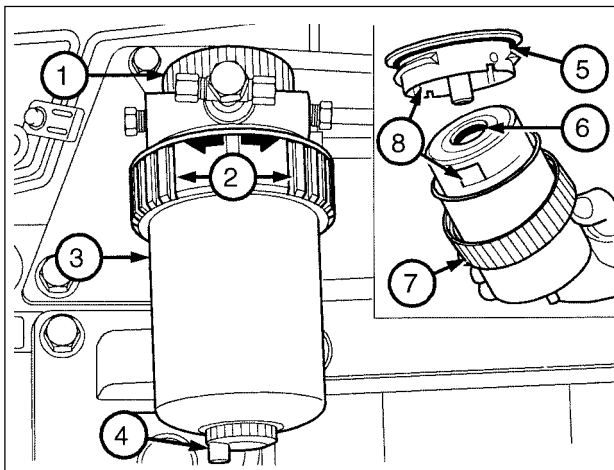

Fig. 5-7 - Demounting the fuel filter.
Proceed in the following way (Fig. 5-7):
- 2 - Open the drain cock (4 Fig.5-7) on the filter bottom and drain all fuel.